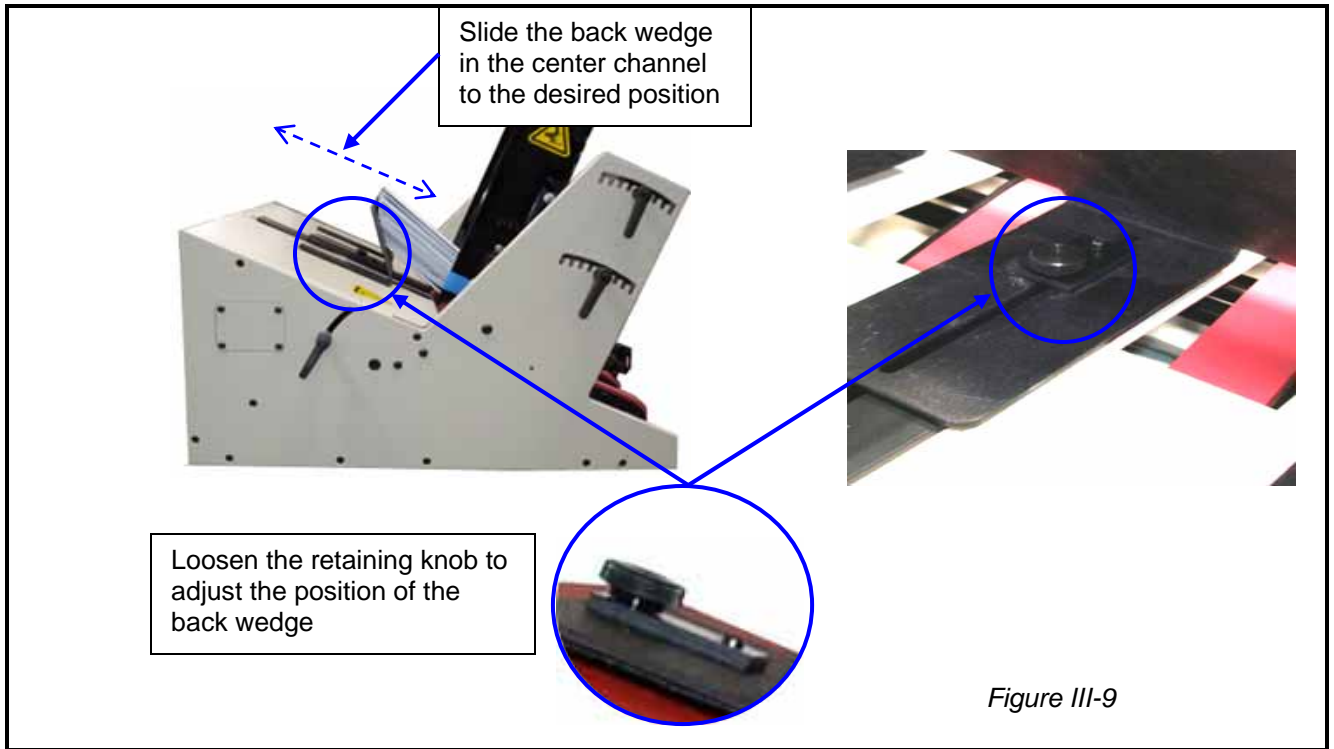

Figure III-9
1. Set the “Shaker Wedge” under the material to obtain the proper stack angle for feeding, see figure III-9. The variables of this setting may be dependent on the characteristics of the material. A “Wedge Extension” can be used when setting up narrow material. The Force Flex Feeder comes with several different size Back Shaker Wedges, choose the one that best fits the size paper you’re running.